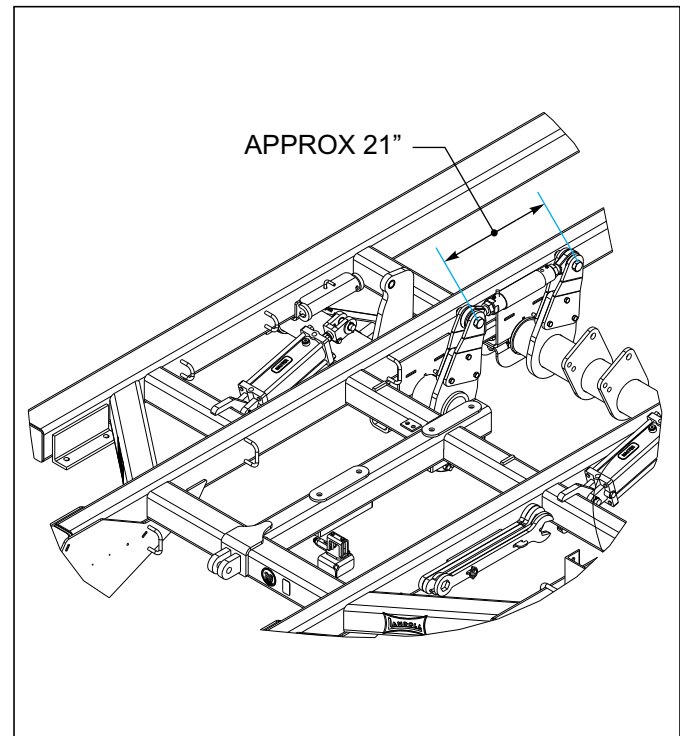

Figure 4-6: Radius Rod Measurement
7. With the cylinders still fully retracted, install the adjustable radius rod between the two main lifts. This will insure the lifts are properly timed and not binding. The radius rod centers will be approximately 21" long (**See Figure 4-6.**)